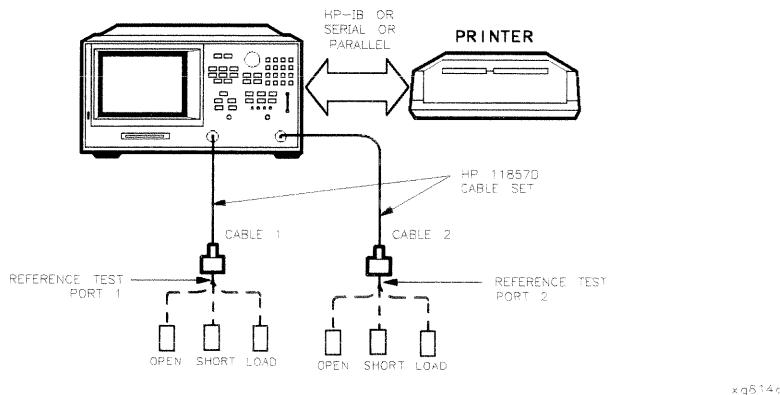

Figure 2-2. Connections for Measurement Calibration Standards
13. Connect the “open” end of the open/short combination (supplied in the calibration kit) to reference test port 1, as shown in Figure 2-2.